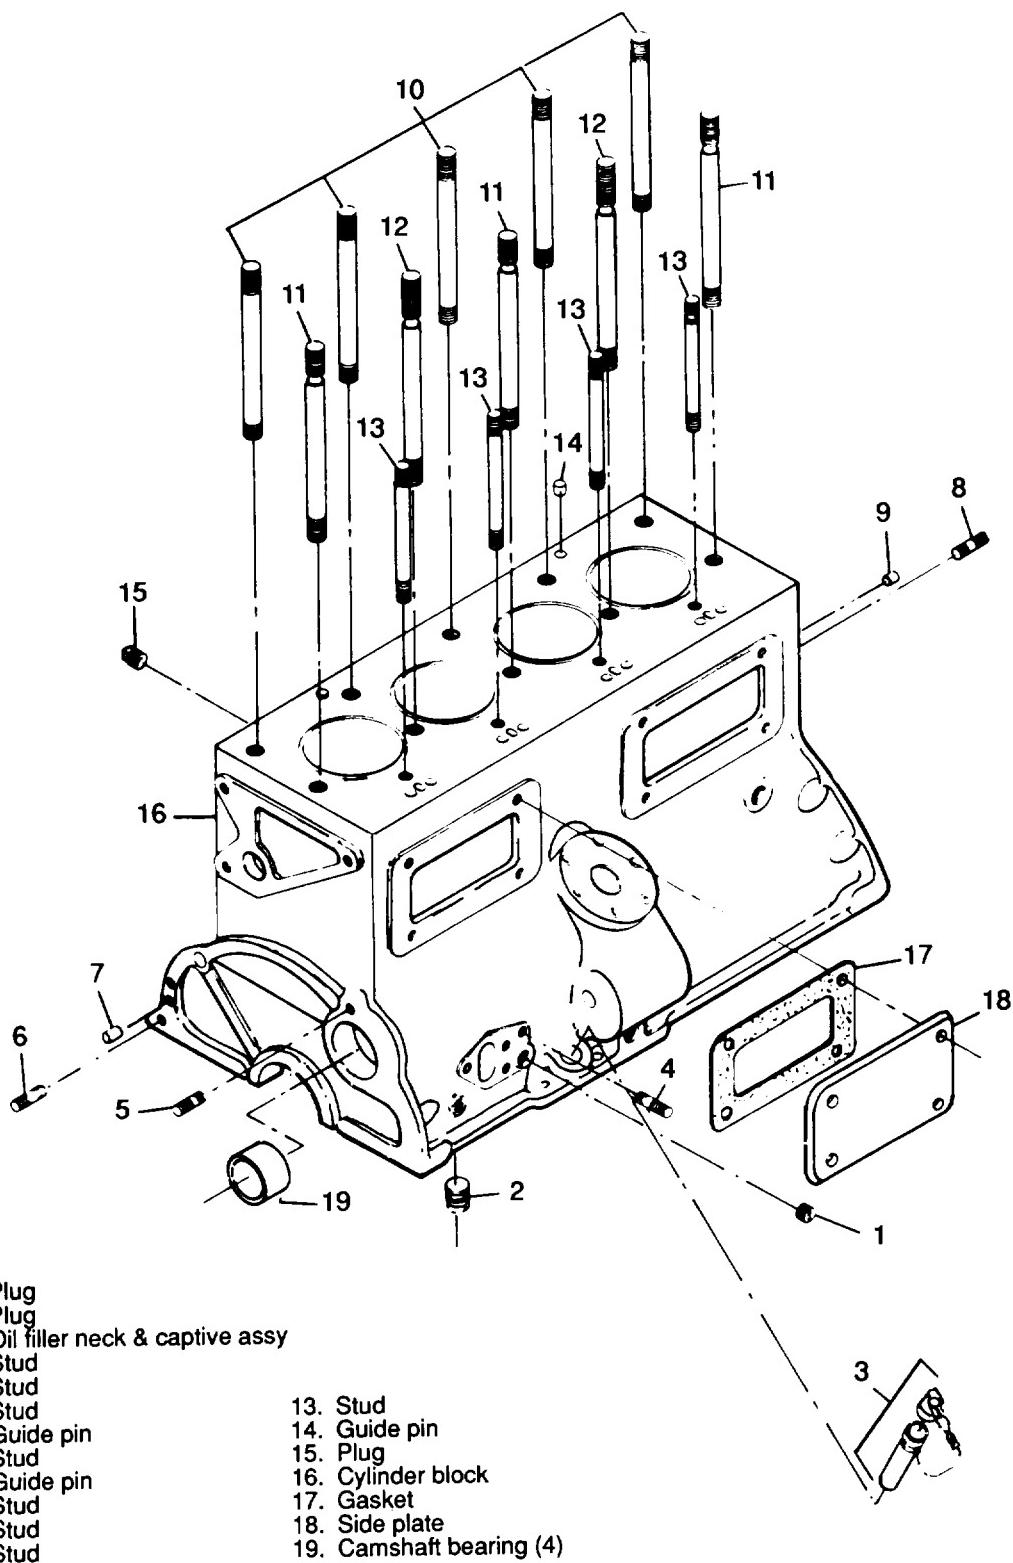

Figure 3-53. Cylinder Block Assembly, Exploded View
- (1) Remove engine assembly (paragraph 2-6).
- (2) Remove timing gears and cover (paragraph 3-51).
- (3) Remove flywheel and flywheel housing (paragraph 3-50).
- (4) Remove cylinder head and rocker arm assembly (paragraph 3-54).
- (5) Remove camshaft and bearings (paragraph 3-55).
- (6) Remove timing gear housing (paragraph 3-51).
- (7) Remove crankshaft, connecting rods, and pistons (paragraph 3-56).
- (8) Remove plugs (1 and 2, figure 3-53).
- (9) Do not remove oil filler neck and captive cap assembly (3) or stud (4) unless inspection reveals damage.
- (10) Do not remove studs (5 and 6) or guide pin (7) unless inspection reveals damage.
- (11) Do not remove studs (8) and guide pin (9) unless inspection reveals damage.
- (12) Do not remove studs (10, 11, 12 and 13) or guide pin (14) unless inspection reveals damage.
(13) Do not remove plug (15) from cylinder block (16) unless replacement is necessary.
- (1) Prior to installation, mask all openings. Treat and paint.
- (2) If removed, position cylinder block (16), and install plug (15).
- (3) If removed, install guide pin (14), and studs (13, 12, 11, 10).
- (4) If removed, install guide pin (9) and studs(8).
- (5) If removed, install guide pin (7) and studs (6 and 5).
- (6) If removed, install stud (4) and oil filler neck and cap assembly (3).
- (7) Install plugs (2 and 1, figure 3-53).
- (8) Install crankshaft, connecting rods and pistons (paragraph 3-56).
- (9) Install timing gear housing (paragraph 3-51).
- (10) Install camshaft and bearings (paragraph 3-55).
- (11) Install cylinder head and rocker arm assembly (paragraph 3-54).
- (12) Install flywheel and flywheel housing (paragraph 3-50).
- (13) Install timing gears and cover (paragrahp 3-51).
- (14) Install engine assembly (paragraph 2-6).